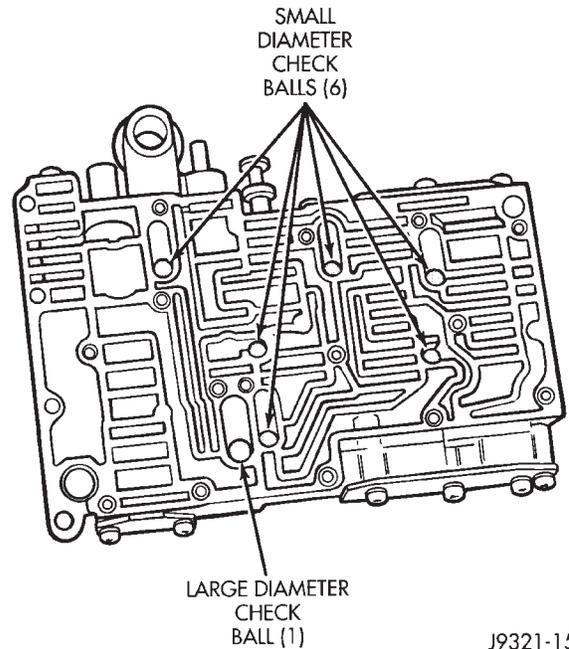

Fig. 89 Check Ball Locations In Upper Housing
- (1) Note location of check balls in valve body upper housing (Fig. 89). Then remove the one large diameter and the six smaller diameter check balls.